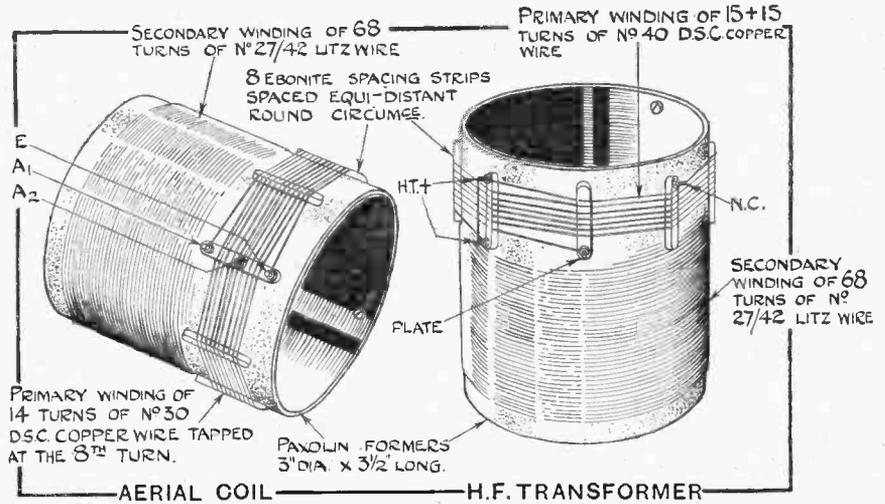
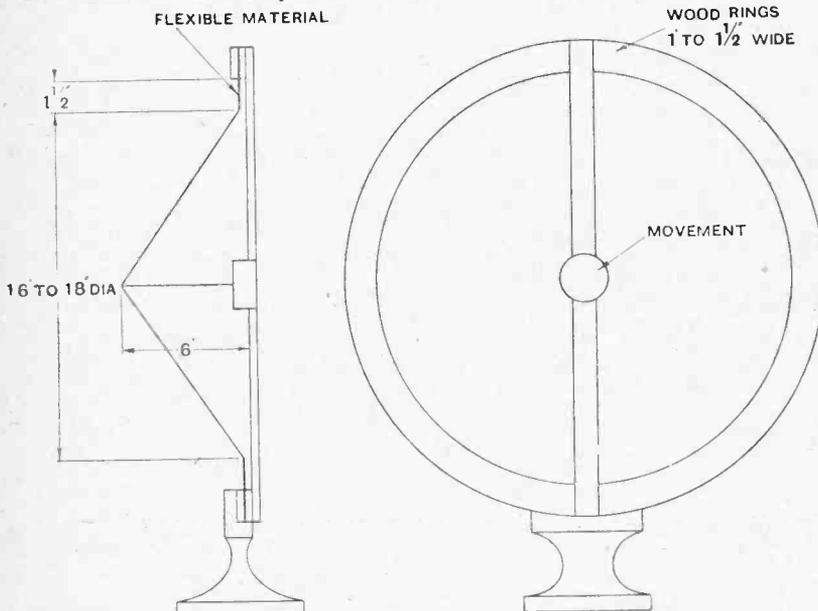
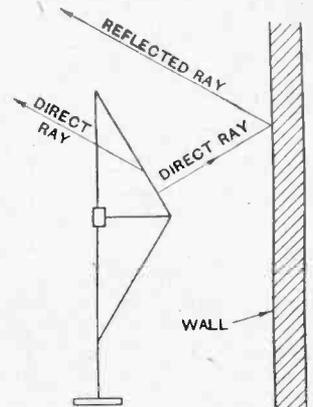
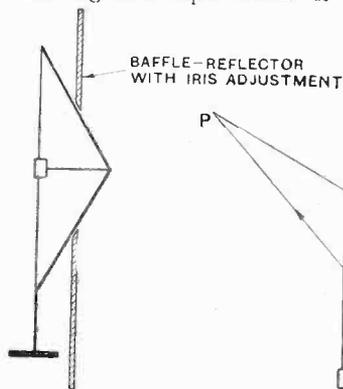

Fig. 2.—Details of the aerial-grid and intervalve high-frequency transformer windings.
Fig. 1.—Details of experimental loud-speaker.
Fig. 2.—Direct and reflected waves from cone loud-speaker.
Fig. 3.— Loud-speaker with adjustable baffle-reflector.
aerial grid transformer had a primary winding of 14 turns tapped on the eighth turn and a secondary of 74 turns of No. 27/42 Litz wire, each of the 27 strands having a single silk covering and the cable a covering of double silk. If this coil is used with a 0.0003 mfd. tuning condenser, the wavelength range is about 220 to above 600 metres, but as there are no broadcast stations operating on so high a wavelength it is better to lower the wavelength a little by removing a few turns from the secondary. In the new design illustrated in Fig. 2 the secondary has 68 turns, and the wavelength is from 200 to 550 metres. The intervalve high-frequency transformer has also been changed a little, the secondary now having 68 turns instead of 74, and the double wound primary
The aerial grid coil lies horizontally in the set, and has a base of wood (drawing F, Fig. 3), 4in. long x 1in. wide x 1/4in. thick, with two ebonite supports 3/8in. diameter. These supports are drilled and tapped 6 B.A. at each end. The coil itself is wound on a Paxolin former 3in. in diameter x 3 1/2in. long, and has 68 turns of 27/42 Litz wire wound with the turns touching, as indicated in Fig. 2, the ends being connected to tags held by screws in the tube. It is only the work of a few moments to remove the insulation from the 27 wires of the cable and to solder them, but when removing the insulation with a piece of fine emery-cloth care must be taken not to break off one of the fine wires.
Fig. 3.—A and B, details of ebonite terminal strips: A, 7/32" diameter; B, 1/8" diameter. C: method of fixing balancing condenser. The upright piece is of ebonite and the two brackets of brass. D: method of fixing grid-bias battery to back of cabinet. E: valve-holder supports. F: base for aerial-grid coil. G: base for intervalve transformer. H: details of ebonite spacers.
cut from a length of ebonite tube 3in. in diameter with $\frac{1}{8}$ in. wall. These are $\frac{1}{4}$ in. wide. One of the spacers has three screws and tags, as shown in drawing H, Fig. 3, and in Fig. 2. A rubber band can be used to hold the spacers in position whilst the first few turns of the primary winding are being put on. No. 30 D.S.C. is used for the primary, and the direction of winding is the same as that of the secondary.
Details of the high-frequency transformer are given in Fig. 2, and details of a base for this will be found in drawing G, Fig. 3. Three of the ebonite spacers are provided with screws; two of them have a single screw at one end, as in drawing H, Fig. 3, while the spacer carrying the positive H.T. connections has two screws. Having wound the secondary, the spacers are put in position and held by rubber bands. The primary winding of No. 40 D.S.C. of 15 turns is then wound in the same direction as the secondary, commencing at the end + H.T. terminal and spacing the turns 15 to the inch. The end of this winding is terminated at the screw marked "plate." Begin the second primary winding at the screw marked NC, and wind this wire in the space between the turns of the primary terminating at the screw marked + H.T. Connect the two screws marked H.T. + with a wire.
minium, details of which will be found in Fig. 4. To the left of the screen is a balancing condenser C_4 , mounted on a suitable bracket, as shown in drawing C, Fig. 3. The remainder of the components will be easily identified, L_1 being the plug-in coilholder and T_2 the H.T. transformer. In the original "Everyman's four-valve" receiver the valve-holders were mounted on circular pieces
of wood $\frac{1}{4}$ in. thick, but in this receiver the valve-holders are mounted on short lengths of ebonite rod, as shown in drawing E, Fig. 3. Drawings A and B, Fig. 3, give details of the terminal strips, which are screwed to the back edge of the baseboard. Two brackets are used to hold the panel and baseboard together, the outside edges of the brackets being filed to allow the set to fit its cabinet.
nected, GB_2 being plugged in negative 3 volts and GB_3 to negative 12 volts. This battery, by the way, is fastened to the back of the set above the terminal strip, the method of fixing the battery being shown in drawing D, Fig. 3.
There may be none in the transmission, e.g., violin, piccolo; (2) the loud-speaker may have a weak lower register (most of them do), especially if the diaphragm is small; (3) the amplifier may be cutting off the low tones. If we take an experimental loud-speaker of the form indicated in Fig. 1 and move it towards the wall during the performance of an orchestral piece, as shown in Fig. 2, the lower tones will disappear and the music will sound high-pitched. It will be observed that this instrument has no baffle to isolate the two sides and prevent circulation which reduces the low tones. The diaphragm is large enough to act as a small baffle, although a baffle augments the lower tones nevertheless. Let us imagine that there is a baffle round the supporting ring, and that the hole in the baffle can be reduced at will, after the manner of an iris diaphragm so familiar in the art of photography for altering the camera "stop" (see Fig. 3). As the baffle is moved parallel to itself along the axis of the loud-speaker diaphragm, we can imagine the hole to be closed in order to fit over the diaphragm at all radii. Ultimately, when the baffle has reached the apex of the cone, there is no hole and it has become a reflector. During the intermediate stages it is partly a baffle and partly a reflector, so that the tone can be varied according to the radius at which the board is situated.
A diaphragm loud-speaker of the form illustrated in Fig. 1 has a definite polar curve, the high frequencies being most in evidence when facing the centre of the concave side. As one moves round the loud-speaker the high tones get weaker until they almost vanish, to come up again in lesser degree on the convex side. The influence of the reflector entirely alters the polar curve. The curve is different according as the reflector is at the concave or the convex side. It seems advisable to reiterate a statement made previously, namely: *There must be low tones in the reproduction for the experiments described herein to be successful.* To this we might add that the experimenter must have an ear capable of discriminating between high pitch and low pitch, especially when the line between the two is not particularly marked. Finally, there is the amplifier. With all due respect to the righteous efforts of many experimenters, I have found in too many cases that amplifiers have been the stumbling block. Double transformer amplifiers will not give the desired results, and the proper course to pursue is, either (a) resistance-capacity coupling with mica coupling condensers of 0.1 mfd., or (b) a large choke or resistance coupled detector followed by a high impedance transformer (low ratio) and low-impedance amplifying valve (7,000 ohms).